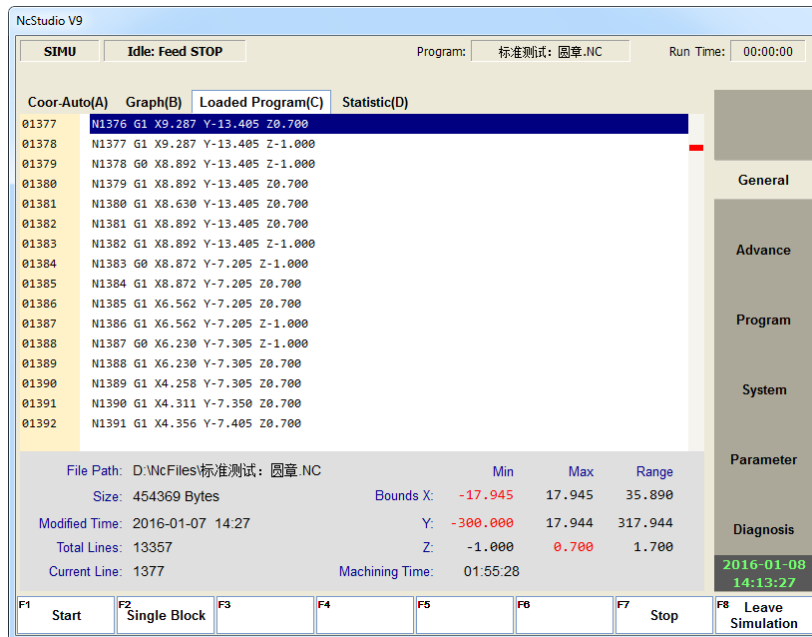

Fig. 3-43 Interface Loaded Program in Simulation Mode
- 3) System begins simulation, and you can view the overall machining path of cutter in interface **Graph**. And additional information such as “Bounds X/ Y/ Z”, “machining time” can be read after you press **F7 Stop** in interface **Loaded Program**, as shown in Fig. 3-43.